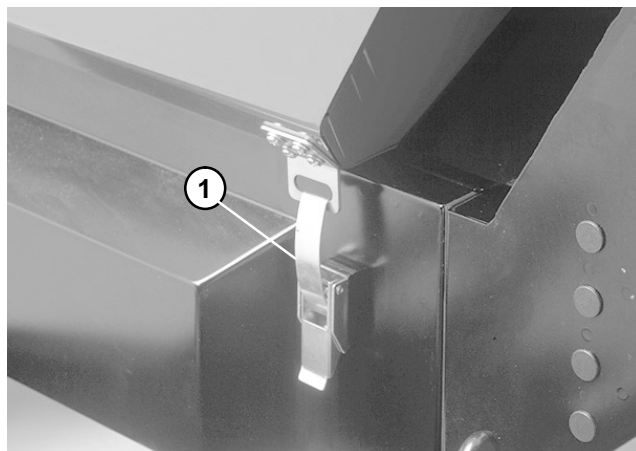

Figure 1
2. Release engine cover latches. Open engine cover (Fig. 1).